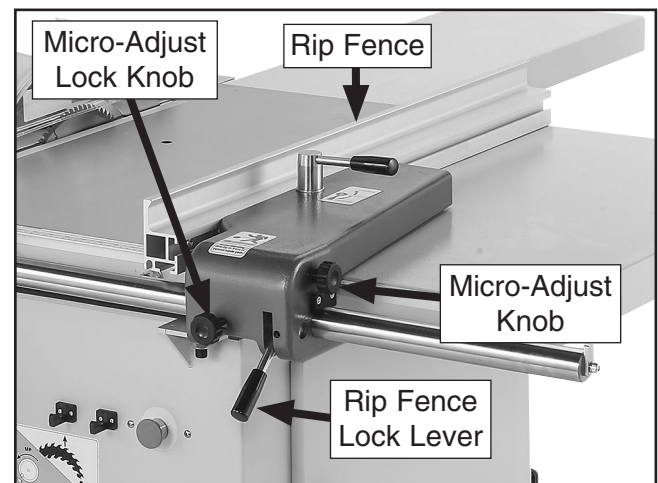

Figure 108. Proper position of rip fence.
5. Position leading edge of rip fence so it extends across extension wing, as shown in **Figure 108**, then tighten lock lever.
6. Lift rip fence lock lever (see **Figure 108**) and adjust fence to approximate width of cut.
7. Tighten micro-adjust lock knob (see **Figure 108**), then turn micro-adjust knob to fine tune width of cut.